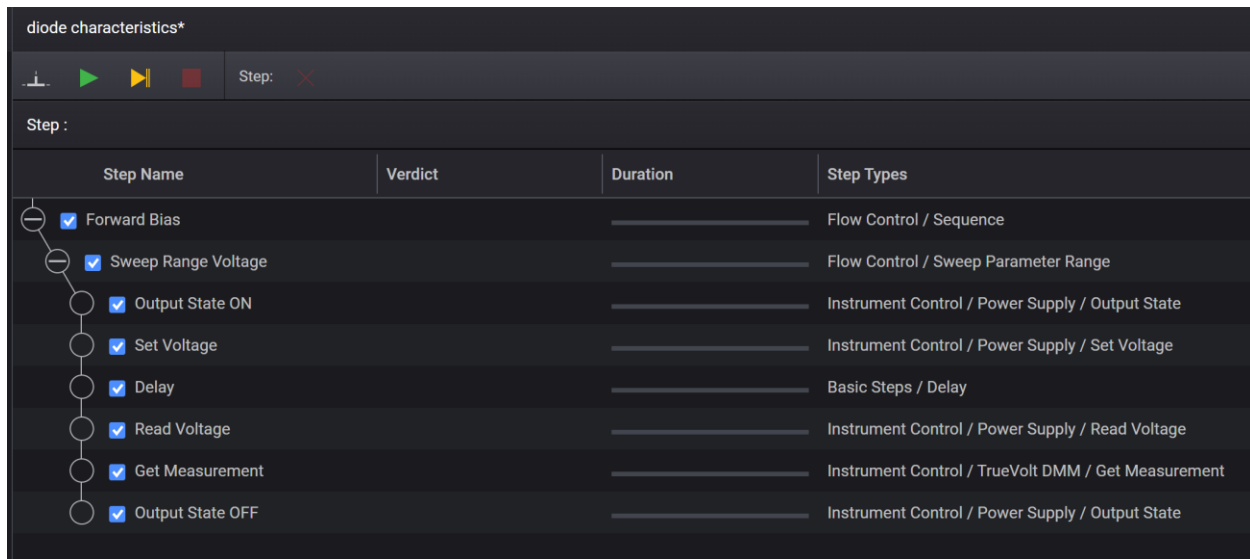

Figure 11. Test Automation flow
To perform forward bias sweeping in diode characterization, a voltage is applied across the diode and the current flowing through the diode is measured at various voltage levels. The voltage is increased in increments of 0.1V and is measured at each step. This allows for the creation of a current-voltage (IV) characteristic curve, which shows how the current through the diode varies with increasing voltage. Figure 11 shows the Test Automation steps used to measure the diode forward bias region automated.